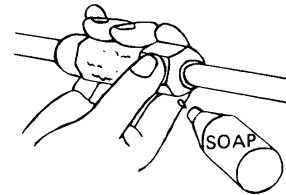

Fig. 11
- Check gas leakage of all joints with liquid soap. Fig. 11.